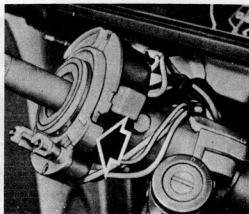

Fig. 10.26. Location of indent ball and spring in switch yoke (Sec. 24)
- 6 Remove the large C-clip from the switch housing. Hold the indicator switch cams out of the way and lift the yoke off the steering column. Take care not to lose the ball and spring from the yoke indent (see Fig. 10.26).